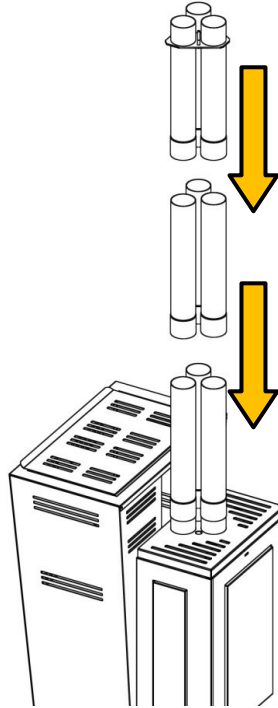

Fig. 2
- 1 Insert one pipe on top of the other, respecting the order shown in figure 2